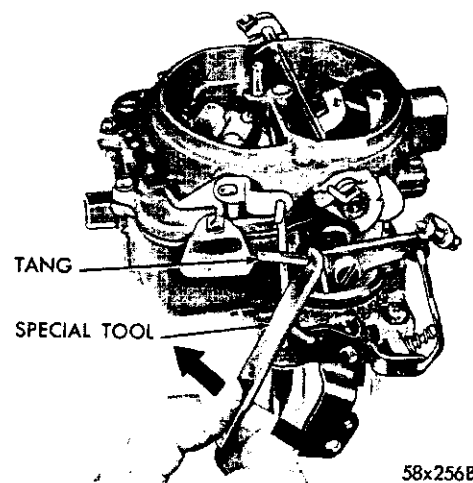

Fig. 19—Bending the Fast Idle Lever Tang
(2) With a finger lightly pressing against the valve, a slight drag should be felt as gauge is being withdrawn. If an adjustment is necessary, bend the tang on the fast idle lever, using Tool T109-22, as shown in Figure 19 until correct clearance has been obtained.